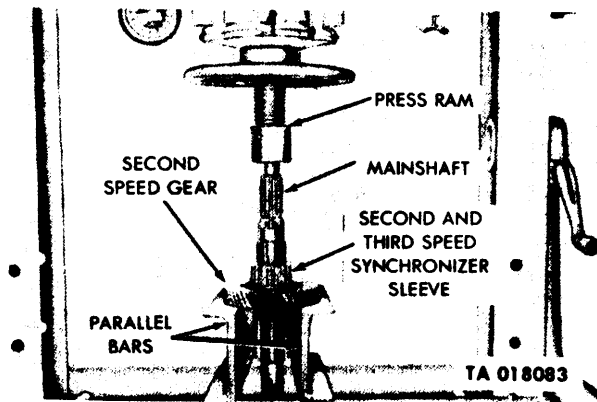
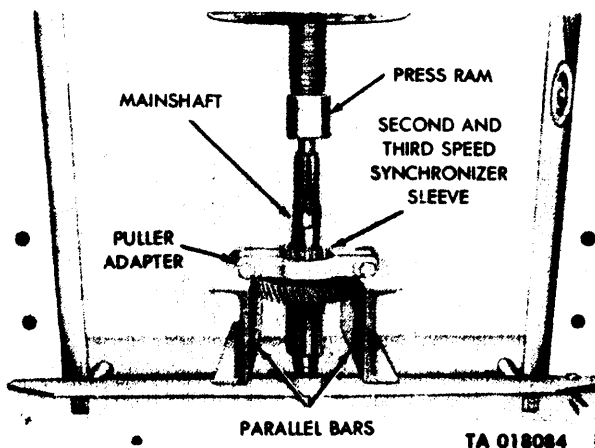

Figure 3-36. Removal Second-Speed Gear, Second- and Third-Speed Synchronizer and Synchronizer Sleeve.
Figure 3-37. Removal of Second-Speed Gear, Second- and Third-Speed Synchronizer and Synchronizer Sleeve.
(3) Slide second- and third-speed synchronizer free of mainshaft. Using a pair of pliers, remove the snapping which holds the second-speed synchronizer sleeve in position. Set up press as shown in figure 3-36. Press second- and third-speed synchronizer sleeve approximately 1/4 inch. Do not press second-speed gear onto woodruff keys of mainshaft. Install the puller on second and third speed synchronizer sleeve as shown in figure 3-37. Continue to remove synchronizer sleeve from shaft and remove the two woodruff keys, then remove second-speed gear.
(1) Slide the second speed gear on the mainshaft. Coat the second- and third-speed synchronizer sleeve bore and mainshaft with a light coating of grease, artillery and automotive (GAA), MIL-L-10924. Start the sleeve on the mainshaft. Place into the press, face down, between two parallel bars. Press sleeve into position and secure it using a new snapping. See figure 3-37 for positioning of the second- and third-speed synchronizer.
**3-17. Repair and Replacement Standard Points of Measurement.** Figures 3-37, 3-48, 3-49, and 3-50 and corresponding tables 3-1, 3-2, 3-3, and 3-4 provide the repair and replacement points of measurement for transmission models 3052 and 3053A.